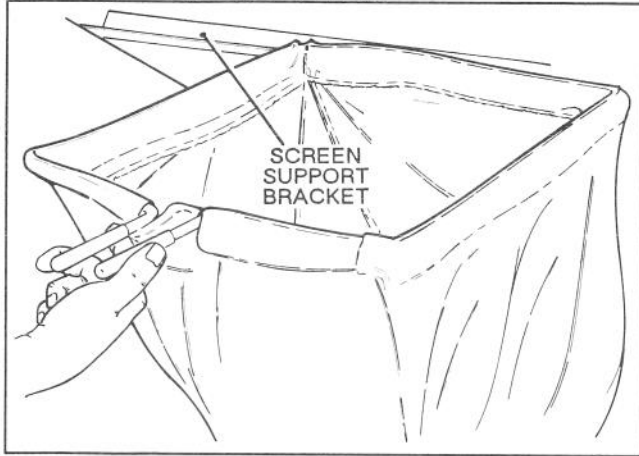

Figure 5
3. Slide grass bag under bag frame cover, positioning front edge of bag rod into screen support bracket on bag frame (Fig.5).